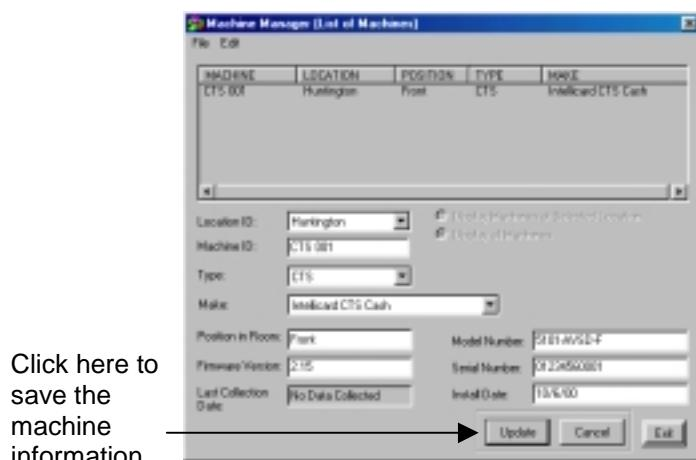

Figure 3.7 Saving Machine Information
4. Once all information has been entered correctly, click **Update** to store the information into the database (Figure 3.7).